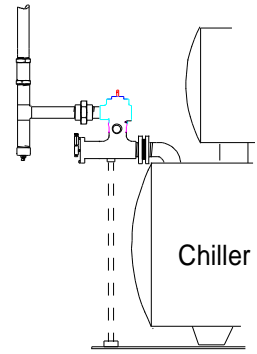
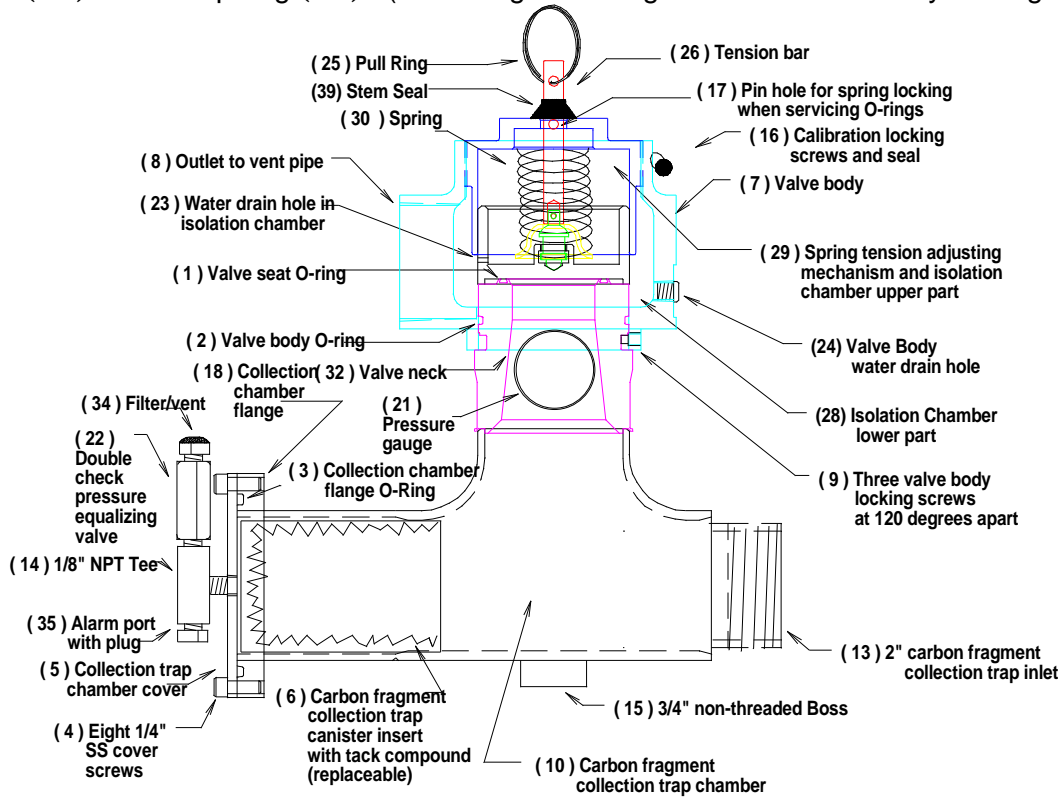

Figure 1.
Figure 3 - Cutaway View
See Figure 3 on Page 9 for location of parts on assembled unit.
NOTE: *IT IS NOT NECESSARY TO REMOVE THE CHILLER'S RUPTURE DISK TO INSTALL THE RuptureSeal™.* The valve's 2" carbon fragment collection trap inlet (13) (see Figure 3 on page 9 for location) should be screwed directly into the chiller's outer rupture disk flange (see Figure 1 on Page 8). If this is not possible, see Appendix "C" for other installation possibilities. If the installer wants to avoid putting stress on the rupture disk assembly, a straight, 2 inch ID flexible coupling can be used between the rupture disk flange and the RuptureSeal™.
1. Determine the best mounting arrangement for the **RuptureSeal™** in relation to the chiller's existing rupture disk, vent piping, and the recommended supplemental support. The best arrangement is one that places the **RuptureSeal™** as close as possible to the rupture disk. The valve body (7) can be rotated to orient the "outlet to vent pipe" (8) in any horizontal direction by loosening the three (3) valve body locking screws (9) (for illustration, see the first row of Appendix "C" on page 16). Once in position, be sure to re-tighten the three (3) valve body locking screws (9).
2. The **RuptureSeal™** "valve" should be mounted in the vertical position with the carbon fragment collection trap chamber (10) in the horizontal position (see **Figure 1 - Typical Installation**). The RS-2 can be mounted in other positions (except upside down), however, the valve is calibrated for the vertical position and it should be mounted in a position other than vertical only if absolutely necessary. **READ WARNING BELOW.**
Warning: YOU MUST READ Appendix "C" if mounting in positions other than as illustrated in Figure 1.
It is recommended that a supplemental mounting support be provided for the **RuptureSeal™** valve to relieve any stress it may put on the rupture disk assembly (see Figure 1 on page 8). A support mounting coupling (15) has been provided for this purpose. The coupling will accommodate 3/4” non-threaded pipe. The installer shall determine the best way to provide the supplemental support.